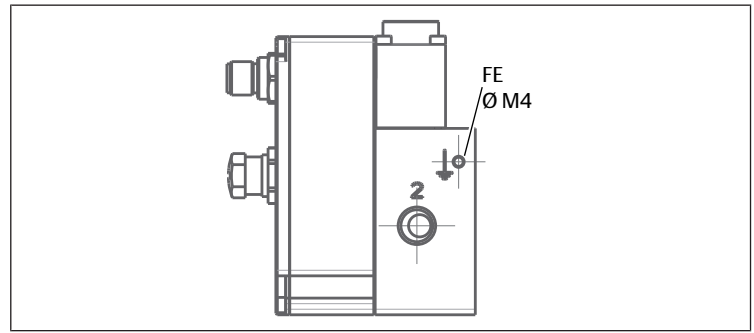

Fig. 2: Grounding the valve housing
2. Use the FE ground connection (Ø M4) to establish a low-impedance connection between the valve housing and the ground (FE). See → Fig. 2.